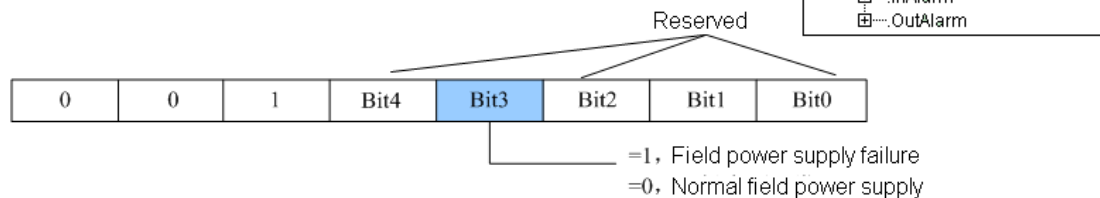

Figure 11.20: Definition of LK65I Device Diagnosis Byte
- Field power loss detection is a kind of device diagnosis. The definition of device diagnosis byte is shown in Figure 11.20. After the high-speed diagnosis function block is called, the diagnosis data reported by LK65I will be stored into device output end "ModStatus" of the function block, that is: